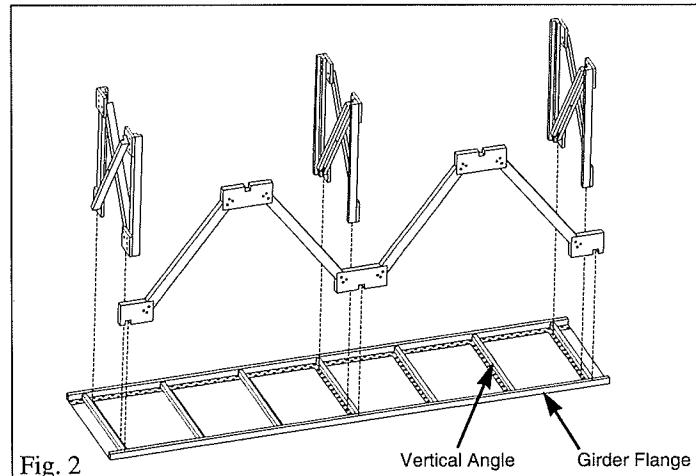

Fig. 2
1. Examine a 30' girder (1) and note that each side of the **girder** has a number of **vertical angles**, each with an adjacent row of rivets (see fig. 2). For assembly, the **girders** need to be aligned correctly. Place both **girders** side by side on your work surface. The row of rivets on the center **vertical angles** of both **girders** should be facing the same direction. If one row of rivets is facing left and the other facing right, rotate either **girder** end for end so the row of rivets are facing the same direction.
2. Note that the 30' lateral bracing (2) has three rivet plates on one edge, two rivet plates on the opposite edge, and rivet detail on only one side. Hold a **lateral bracing** on edge aligned with the three rivet plates down and the rivet detail facing the outside of the bridge. Match the notches in the rivet plates with the appropriate **vertical angles** along the bottom edge (as it sits on your work surface) of one of the **girders** and cement in place against the inside edge of the **girder flange**. Hold the **lateral bracing** square to the **girder** while the cement dries. Cement the second 30' lateral bracing to the second 30' girder, again cementing the **lateral bracing** to the bottom edge of the **girder**, making sure the rivet detail is to the outside of the bridge.
3. Note that the girder **X-braces** (3) have three angle flanges on one side and one angle flange on the opposite side. Place an **X-brace** on one of the **girders**, on the rivet side of the center **vertical angle**, positioned so the side with the three angle flanges is facing away from the **vertical angle**. Cement the **X-brace** against the **vertical angle** and to the **lateral bracing** rivet plate, holding it square while the glue dries. Cement the other four **X-braces** to the same **girder**, positioning them in the same manner.
5. When the glue is sufficiently set, place the girder assembly on a sanding block and sand off the draft angle/parting line from the top and bottom edges of the **girders**. Center and cement a 30' rivet plate (4) to the bottom edge of both **girders**. The girder assembly is now complete. Fabricate the other deck girder assembly.